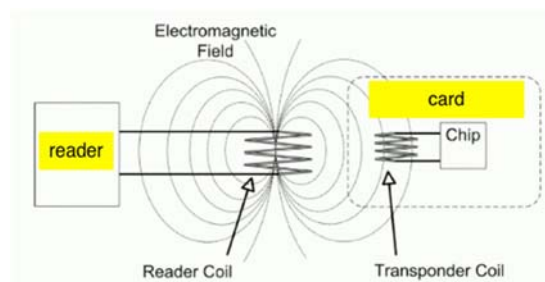

Figure 1: NFC system
- 4.1 Near Field Communication (NFC) is a short-range, typically less than 10 cm, low data rate wireless communication system which uses electro-magnetic field induction to achieve contactless communication between two electronic devices. It uses an inductive coupling concept that is similar to the operating principle of a transformer. The magnetic field of two conductor coils, also refer to as antennas, provides the coupling effect of the polling device (reader) and the listening device (card) as illustrated in Figure 1.